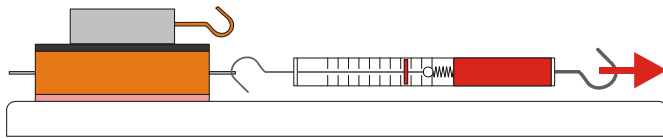

Figure 1
- 2) Place the friction block with its rough surface in contact with the base plate and place the weight on the friction block (see Figure 1).